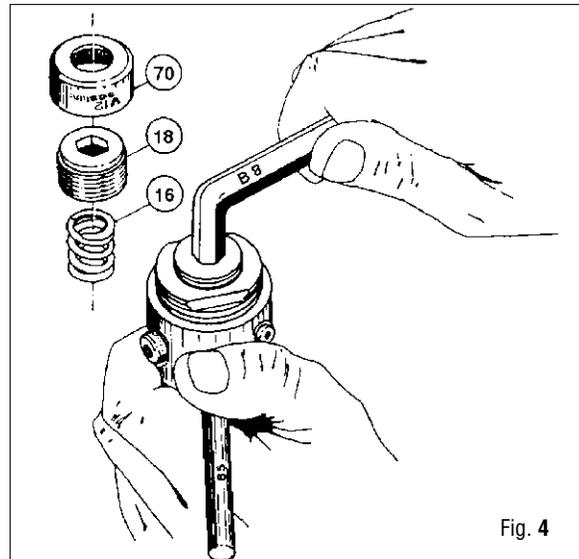

Fig. 4
6. Remove seat connector (75) and O-ring (74) from the First Stage.
7. Remove regulating nut cover (70).
8. With the setscrew wrench (B-13), unscrew regulating nut (18) and remove spring (16). (Fig. 4)